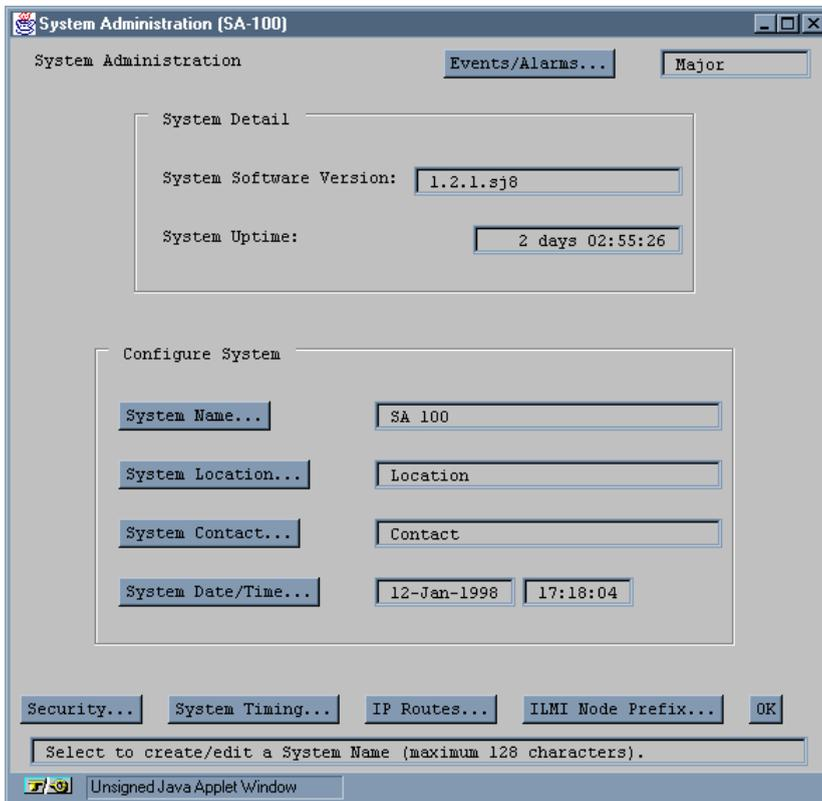

Figure 3-1. System Administration Window
1. Choose the Administration button from the Main menu. The System Administration window appears (see Figure 3-1).